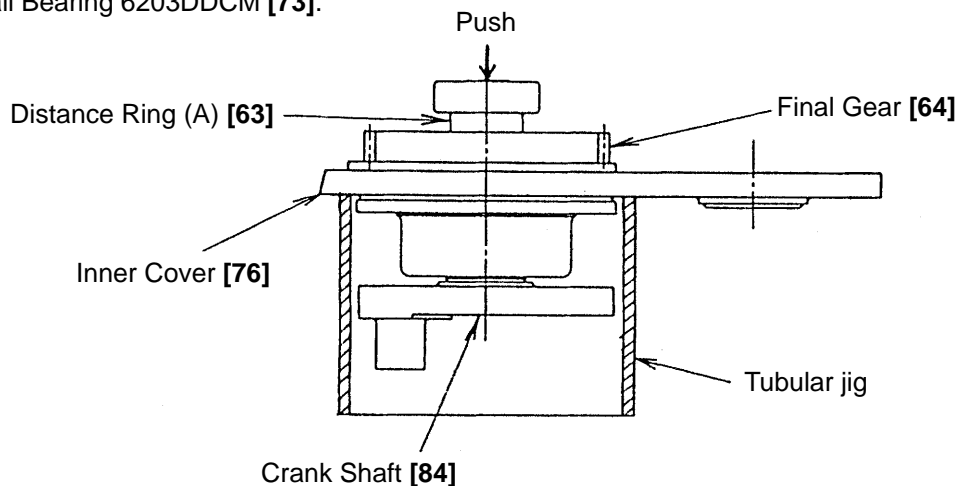

Fig. 14
Remove the four Seal Lock Hex. Socket Hd. Bolts M8 x 18 [81]. As illustrated in Fig. 14, support the lower surface of the Inner Cover [76] with an appropriate tubular jig (100 mm inner dia.), apply an appropriate steel rod (maximum diameter of 19 mm) to the end surface of the Crank Shaft [84], and push it downward with an arbor press. The Ball Bearing 6204VVCM [62], Distance Ring (A) [63], Distance Ring (B) [65], Distance Ring (C) [77], Final Gear [64], Feather Keys 4 x 4 x 10 [70], Bearing Boss [80], Ball Bearing 6305VVCM [78] and Crank Shaft [84] can then be removed from the Inner Cover [76].